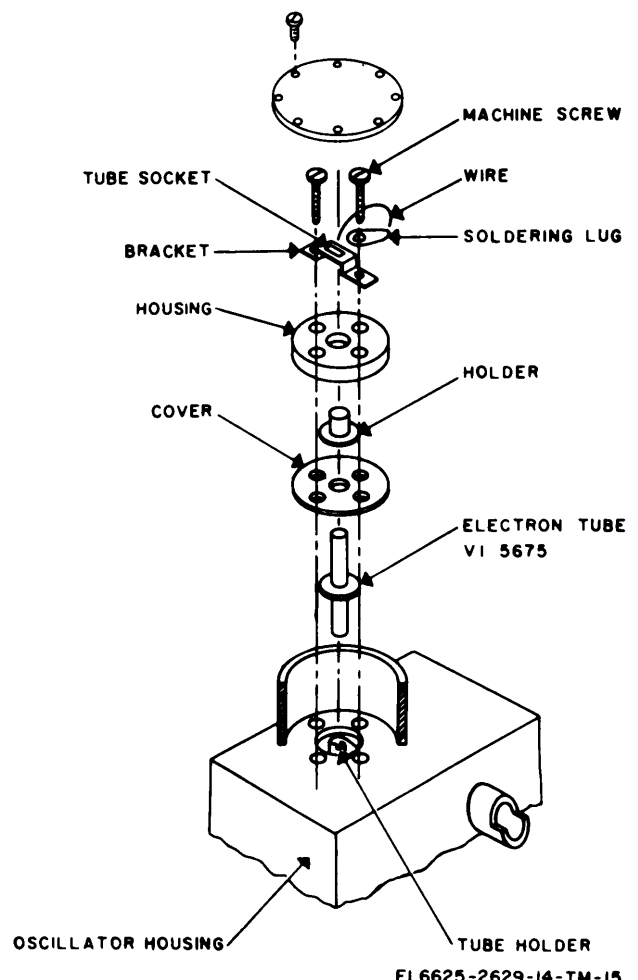

Figure 7-6. Disassembly diagram for replacement of tube V1.
(12) With the rotor in position, tighten the setscrew (24) on the rotor hub.
*c. Replacement of Electron Tube VI (fig. 7-6).*
(1) Remove 8 screws with lockwashers holding the lid, then remove the lid that covers the tube enclosure.
(2) Remove the two machine screws that hold the tube socket bracket assembly.
(3) Lift off the tube socket bracket assembly.
(4) Remove the two remaining screw.
(5) Lift off the housing, the holder, and the cover.
(6) Pull the tube straight up to remove it from the plate contact.
(7) Insert new tube into the plate contact.
(8) Be sure that the grid makes contact with the grid contact mounting of the tuning capacitor.
(9) Replace the cover, holder, and housing.
(10) Replace the two screws that do not hold the bracket.